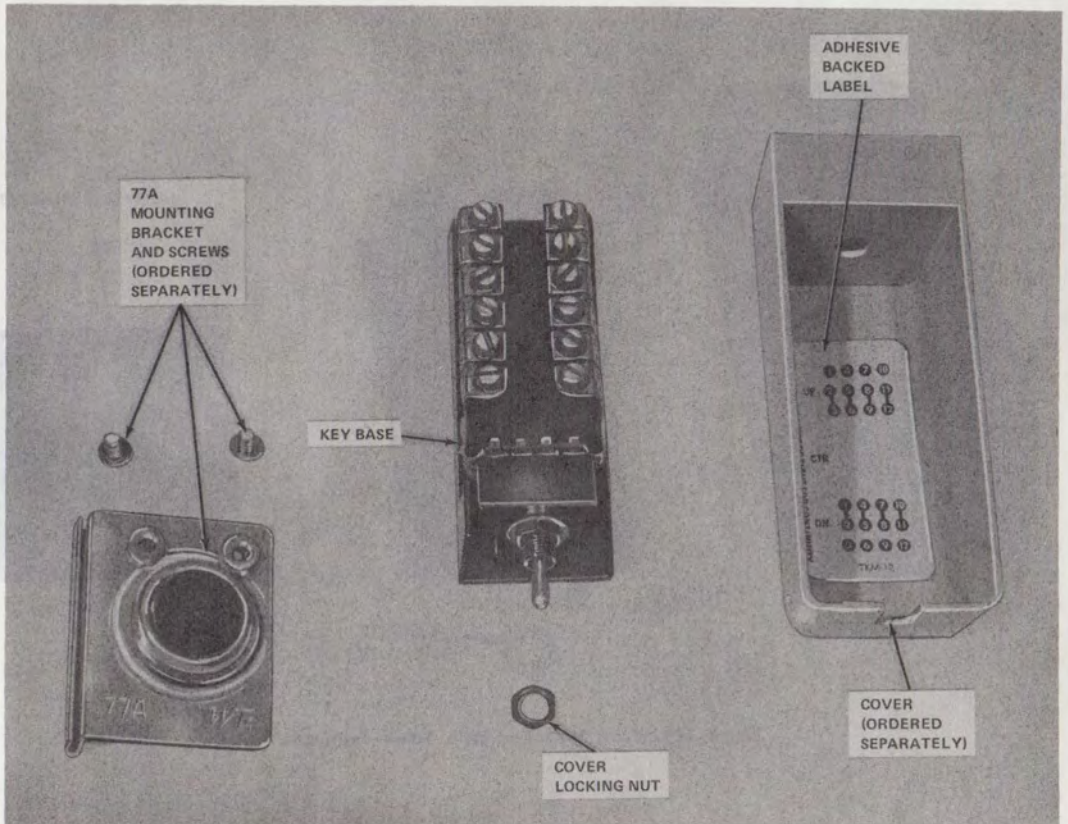

Fig. 8—KS-21776 Type Key With Flexible Wiring Strip
(a) There are two types of keys, one type (Fig. 8) consists of:
- (c) Terminate electrical connections as required. The stick-on schematic decal furnished with all keys should be placed inside the key cover as shown in Fig. 8.♦